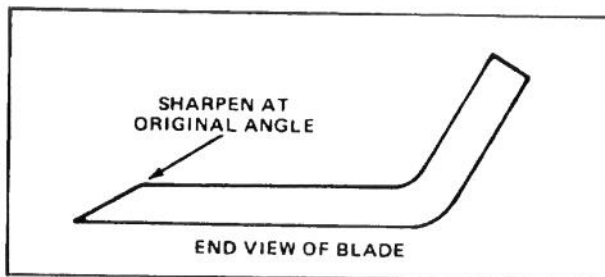

Figure 23
7. Using a file, sharpen cutting edge at both ends of the blade (Fig. 23).
7. Since rider is tipped on end, check condition of blade (Fig. 23).